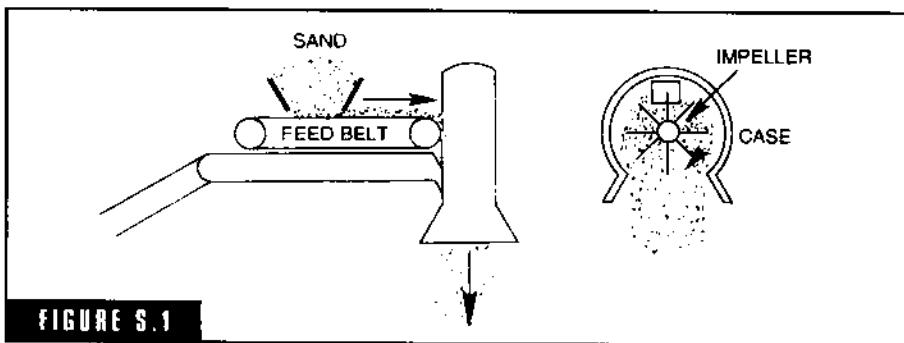

FIGURE S.1
**sand slinger** A mechanical device which throws molding sand with sufficient force and impact so that the sand is literally rammed into the mold (Fig. S-1).